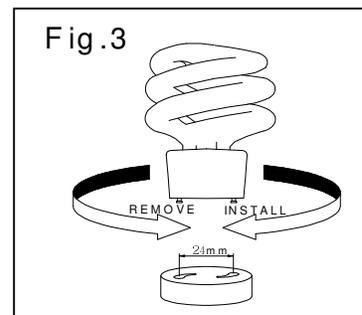

Fig 4
7. To prevent moisture from entering the outlet box (A) and causing a short, use clear silicone sealant to outline the outside of fixture back plate (H) where it meets the wall leaving a space at bottom to allow moisture a means to escape (Fig. 4)
8. At this point, unscrew the screws (I), remove cage (J) and install the light bulb (1*13W GU24 Included) in accordance with the fixture specification. **(DO NOT EXCEED THE MAXIMUM WATTAGE RATING) (NE PAS DEPASSER LA PUISSANCE NOMINALE MAXIMALE !)**
9. Re-install cage (J) to the top cover with screws (I).
11. Fluorescent lamps contain Mercury (HG) Dispose of according to Local, State and Federal Law. (www.epa.gov/bulbrecycling).